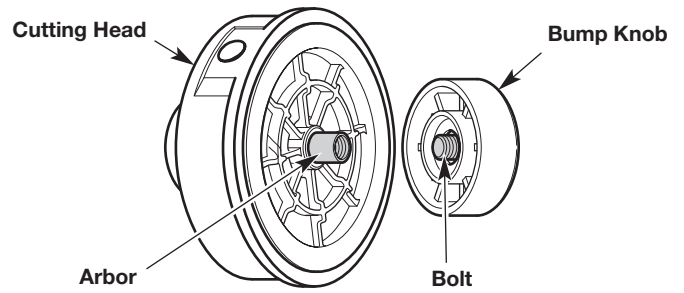

Fig. 26
1. Hold the cutting head in place (Fig. 26). Turn the bump knob clockwise to unscrew it from the cutting head (Fig. 26).
2. Inspect the bolt inside the bump knob to make sure it moves freely (Fig. 26). Replace the bump knob if it is damaged.
5. While holding the inner reel and outer spool together, screw the bump knob on counterclockwise (Fig. 26). Tighten the bump knob securely.